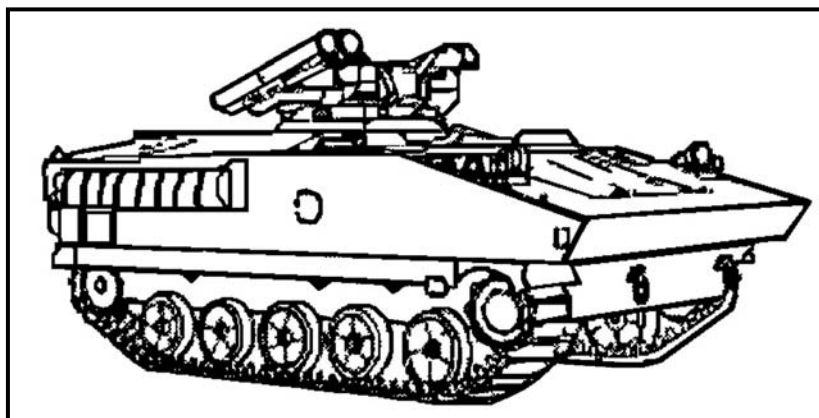

Figure H-11. French ATGM launcher vehicle, AMX-10 HOT.
a. **French ATGM Launcher Vehicle, AMX-10 HOT** (Figure H-11).